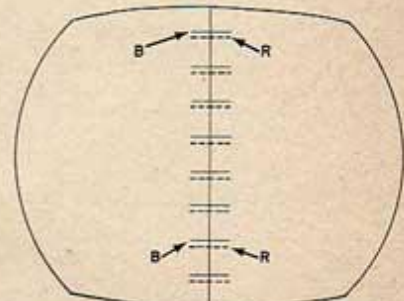

Fig. 2D. Equal displacement of horizontal lines on vertical axis
4. *a.*—Adjust the blue vertical amplitude, VR-3A, and tilt, VR-3B, for equal displacement of the blue horizontal lines and in the same direction from the red horizontal lines where they cross the center blue vertical line. See figure 2d.